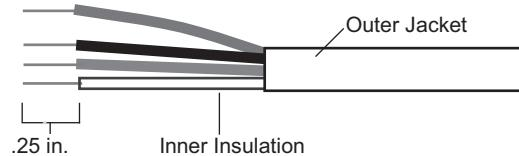

Fig. 13 — Rnet Cable Wire
2. Strip about 1/4 in. of the inner insulation from each wire (see Fig. 13).